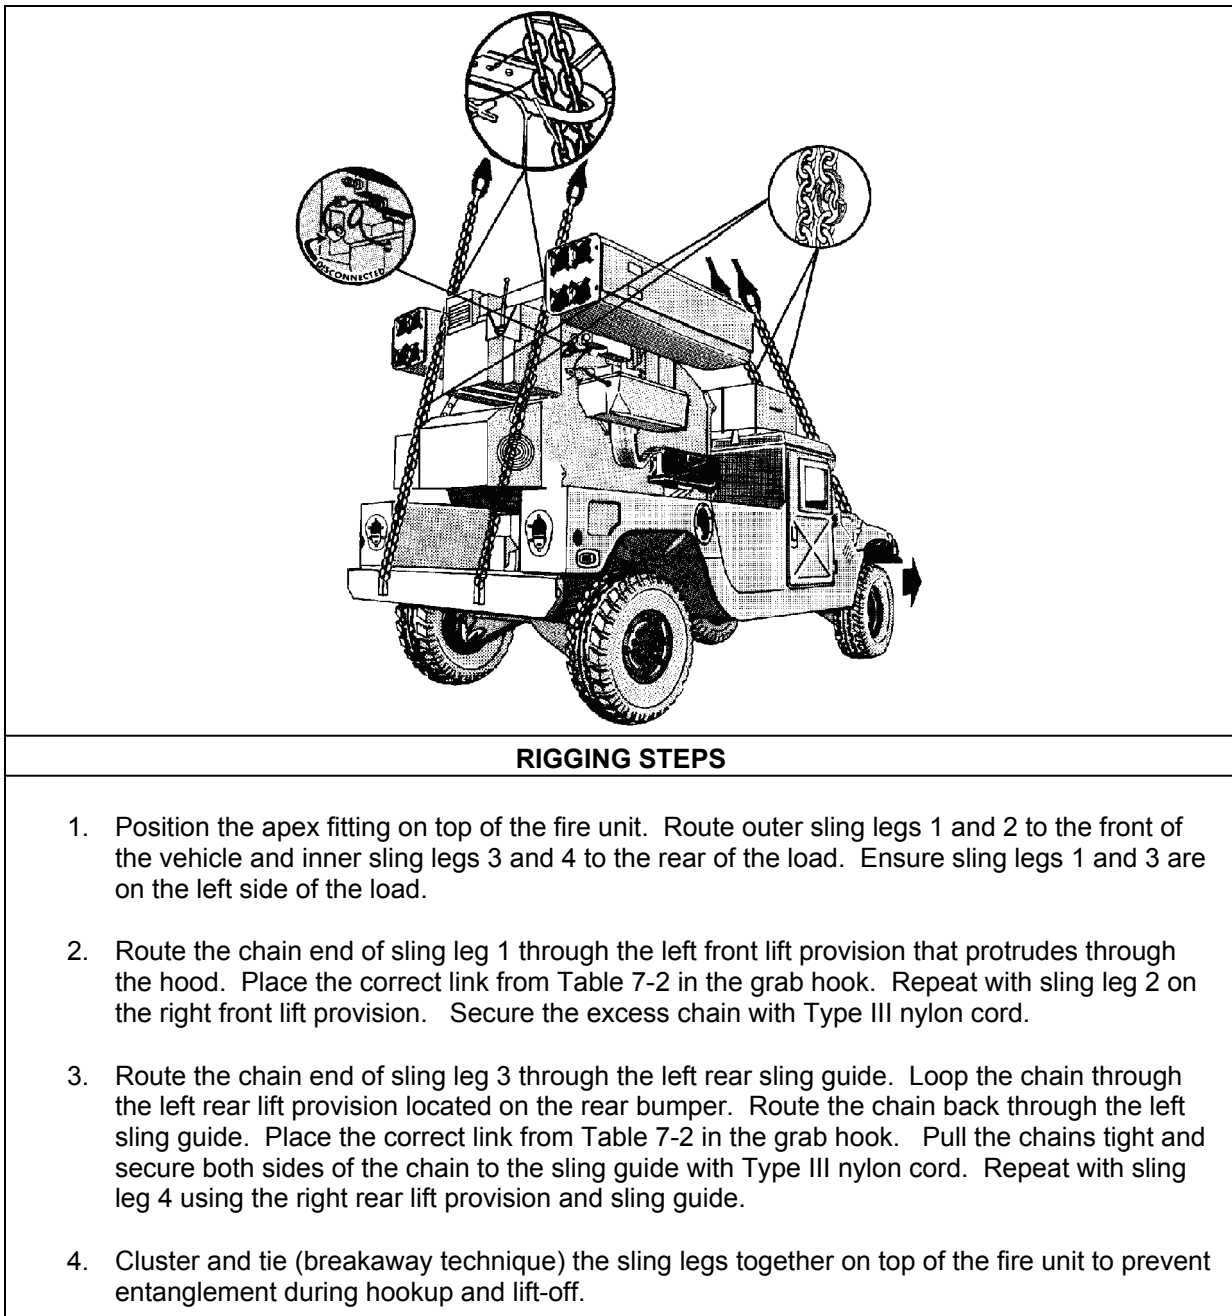

Figure 7-2. Avenger on M1097/M1097A1/M1097A2 HMMWV with ECU/PPU and an Aluminum Airlift Bumper with or without Bustle Box Stowed on the Roof
- **Rigging.** Rig the load according to the steps in Figure 7-2.